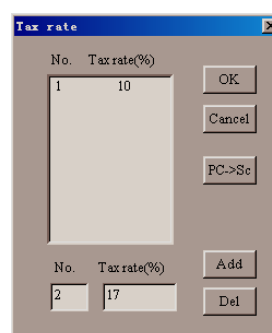

Fig. 6-15
- ☞ Here will show TAX RATE dialog box as fig. 6-15.